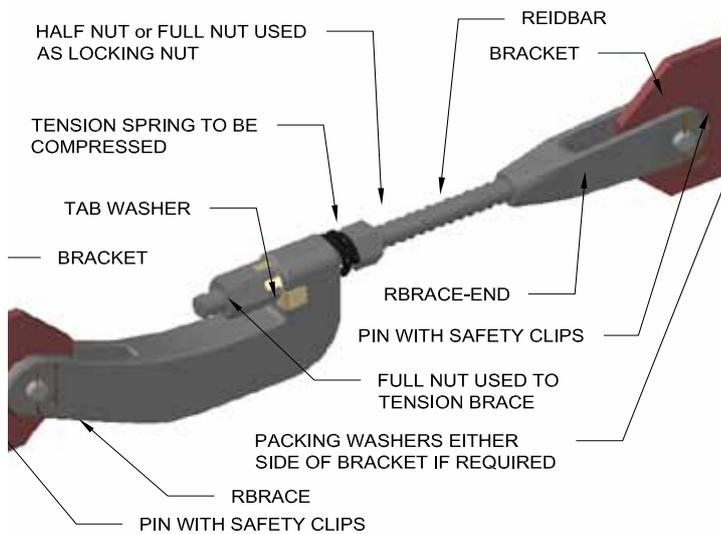

FIG 2: Secure the safety clip as per the diagram.
10. Finally, **the safety clip must be closed** to secure the pin onto the brace end or banana. See FIG 2.